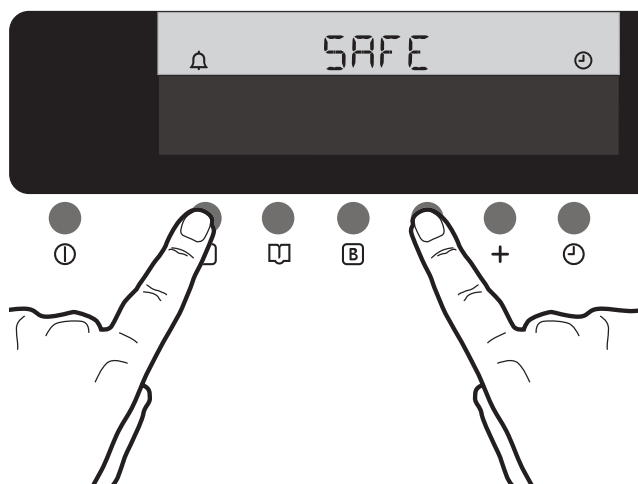

Fig. 17
2. Press buttons  and "**-**" at the same time and keep them pressed for about 3 seconds. The Electronic Control beeps once and the message 'SAFE' appears in the display (Fig. 17).